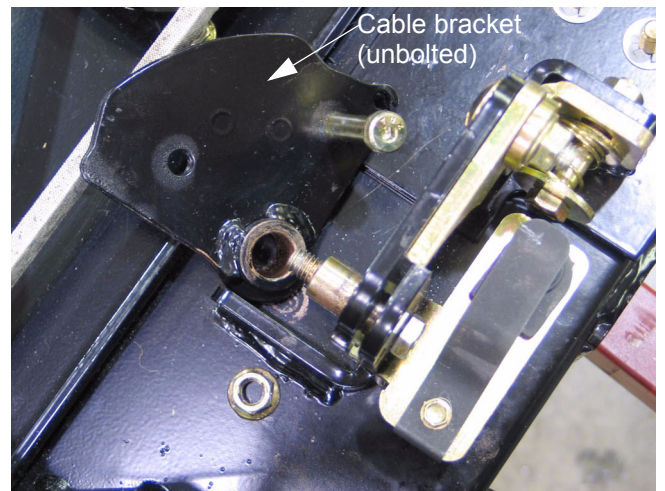

Figure 10.5
- 10.5. If the cable bracket is to be removed, it can be unbolted with the cable attached using two 9/16" wrenches. Once loose, the cable can be disconnected from the bracket. See Figure 10.5.